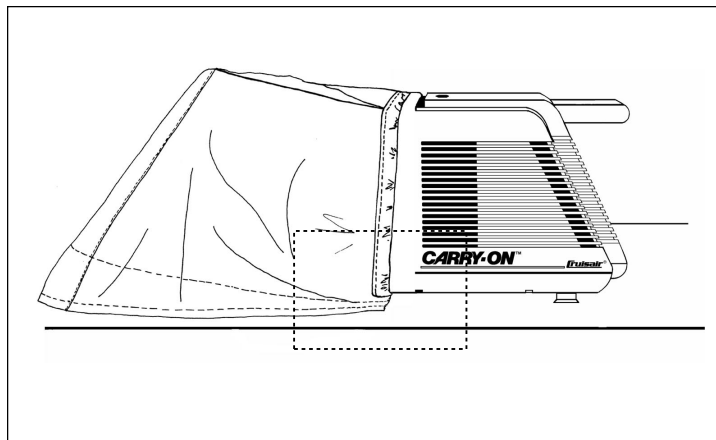

Figure 3. The Carry-On positioned in the boat hatch with the Hatch Bag in place. See inset Figure 4.
2. Place hatch bag over Carry-On in grooves provided. Do not allow hatch bag to cover air intake vents or condensate drain. (See Fig. 3.)